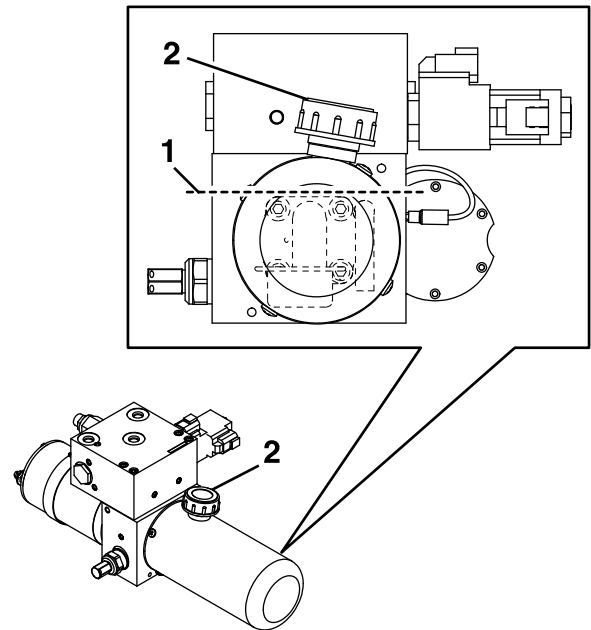

Figure 51
4. The oil level should be slightly above the internal gear pump in the tank (reference Figure 51). If needed, add Exmark Ruby Tran™ oil.